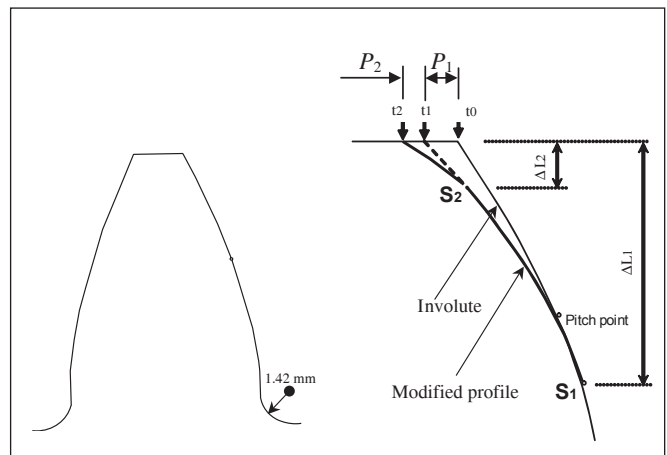

Figure 2—Details of profile relief.
3) When the tooth profile modification was applied, the element birth and death option was used, which has proven to be efficient for solving the model when rigid body motion was incorporated into the mesh cycle (Ref. 7). Finally, all considerations were incorporated into several looping programs, running automatically, that also included post-processing, as each mesh cycle contained over 100 calculation points. According to the previous research results (Ref. 2, 3 and 13), and the "MAAG Gear Book" (Ref. 13), the parameters of the profile modification—as shown in Figure 2—have the